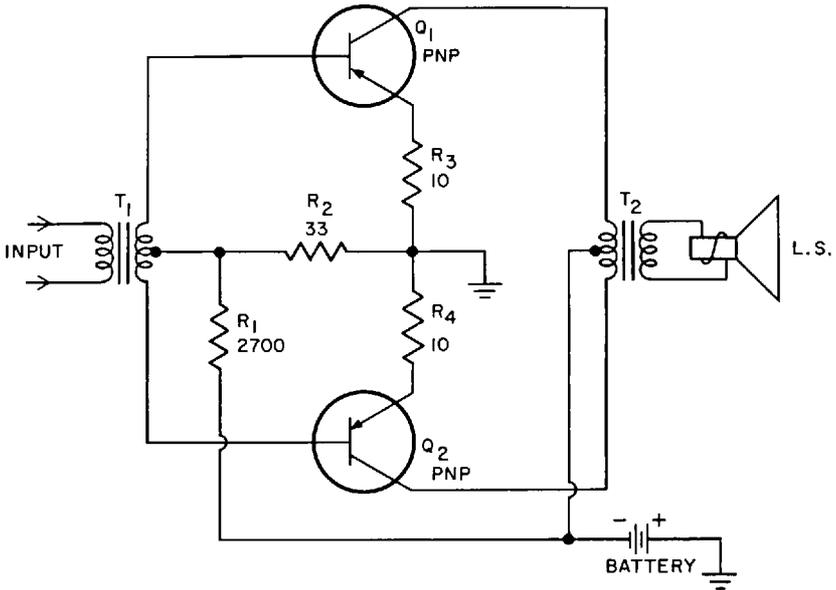

Fig. 28-13. Typical push-pull transistor circuit.
**A-F Push-Pull Transistor Amplifier.** Where greater power is required from the a-f amplifier stage, two transistors may be connected in a push-pull circuit, just as electron tubes (as described in Chap. 27). A typical circuit of such a transistor amplifier is shown in Figure 28-13.